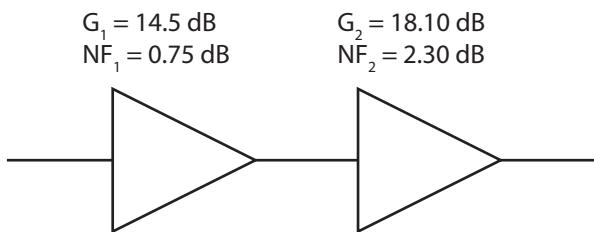

Figure 6: A cascade of two RF amplifiers.
- a) Two RF amplifiers are cascaded as shown in Fig. 6.